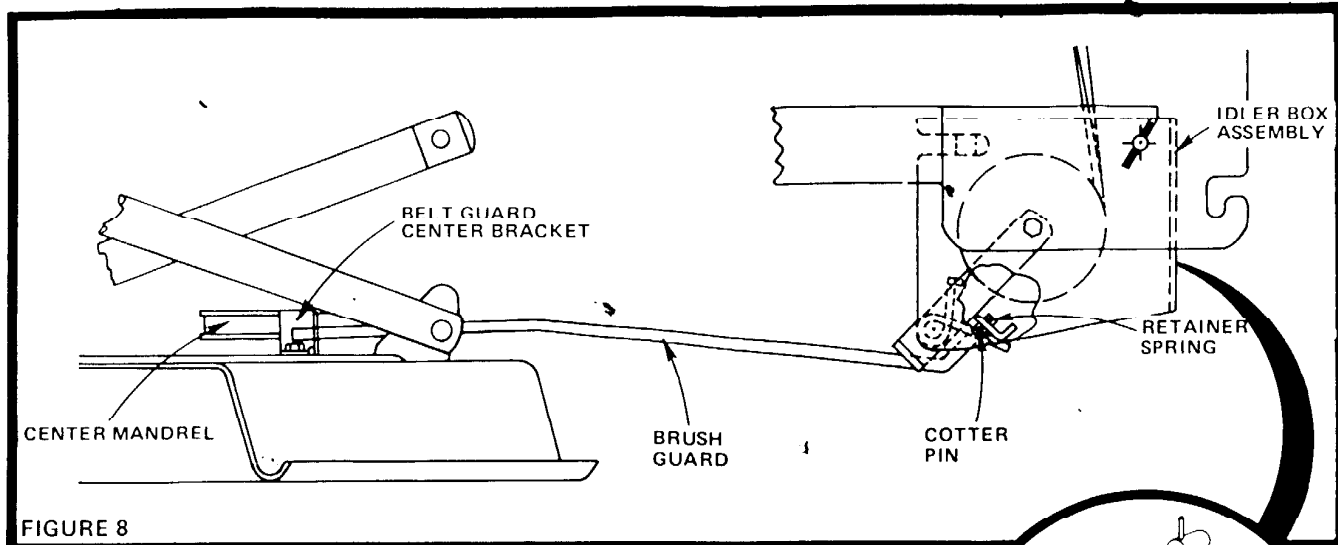

FIGURE 8
- a. Place Cotter Pins in inner holes of Brush Guards and spread (Fig. 8).
- b. Insert plain ends of Brush Guards into holes in R.H. and L.H. Belt Guard Center Brackets (Fig. 8). Brackets are located at Center Mandrel of Mower.
- c. Insert Cotted ends of Brush Guards into Cross Bar on Idler Box Assembly (Fig. 8). Secure with Retainer Springs.
WHEN THE INDICATOR (IDLER BOLT) ALIGNS WITH ARROWS (FIG. 8 - INSET) OR BELT SLIP- PAGE OCCURS THE BELT MUST BE ADJUSTED.
3. Remove Belt Guard Brackets at Center Mandrel Sheave (Fig. 8) by removing two (2) Nuts, Lockwasher and Flat Washers.